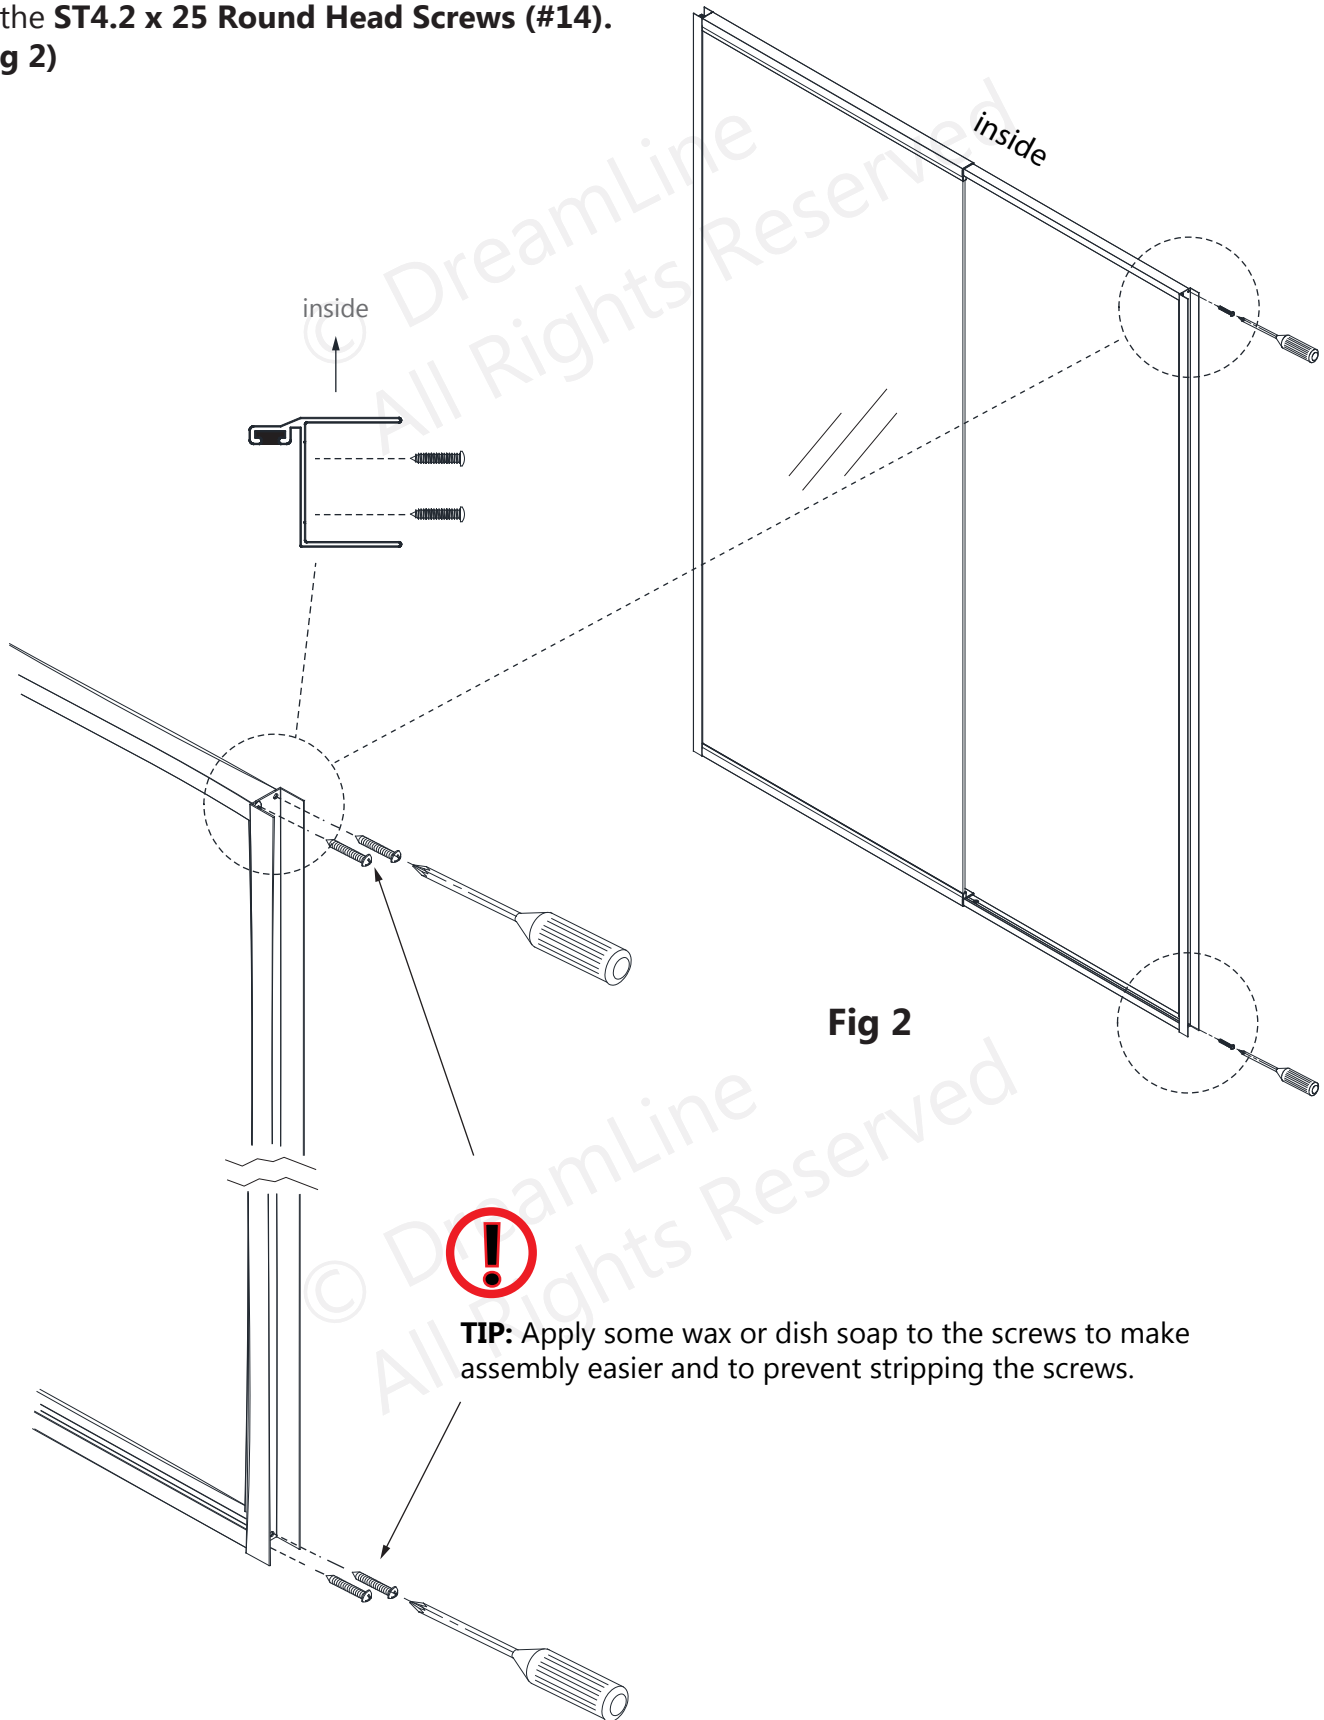

Fig 2
2. Attach the Magnetic Strike Profile (#12) to the Top & Bottom Pivot Rails (#15) using four of the ST4.2 x 25 Round Head Screws (#14). (Fig 2)